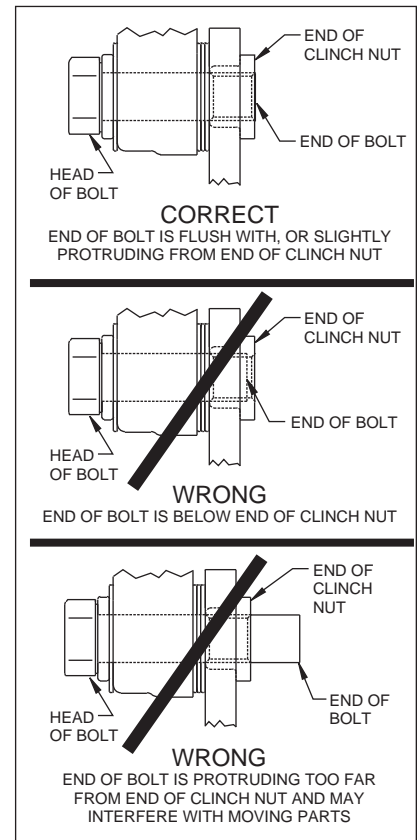

Figure 5.
- Install the dust cap (14) onto the hub (4). Friction created by the o-ring (13) on the dust cap (14) keeps it from unscrewing. The O.D. of the existing spindle washer may be larger than the I.D. of the dust cap (14) which may allow the washer to contact the dust cap (14). Use the spindle washer (12) supplied with the kit instead of the stock washer.
- NOTE:** Please reference the caution statement at the beginning of the assembly instructions. Mount the caliper (15) onto the caliper bracket (1) using two bolts (17), two washers (16) and two flat "shim" washers (18). Finger tighten. View the rotor (8) through the top of the caliper (15). The rotor (8) should be aligned in the center of the caliper (15). If not, loosen the two bolts (17) and adjust the caliper (15) by using 0.032 inch thick shim washers (18). The shim washers (18) should be placed between the caliper (15) and the caliper mounting bracket (1). Finger tighten and recheck alignment. Add as many shim washers (18) as necessary to achieve the correct alignment. **NOTE:** The end of the bolt must be flush with or slightly protruding from the head of the clinch nut. See Figure 5.